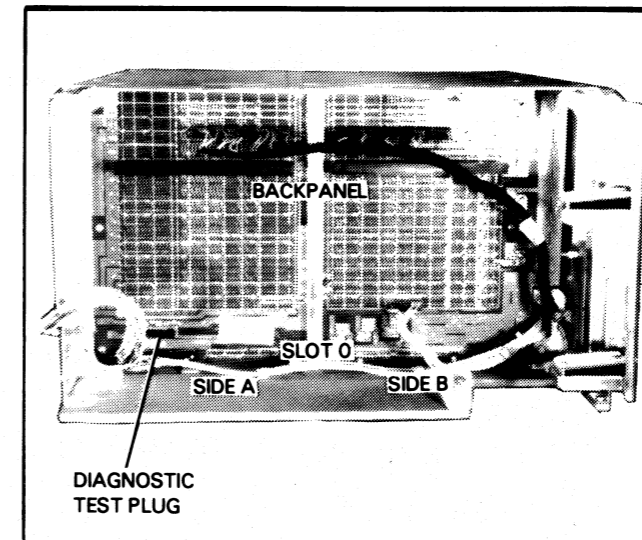

Figure 6.5 Diagnostic Test Plug
5. Make sure the diagnostic test plug is inserted in the correct location with the "RUN" label up (see Figure 6.5).
2. Check that the diagnostic test plug is in the correct location with the "RUN" label up (see Figure 6.5). If it is, continue to step 3; otherwise: